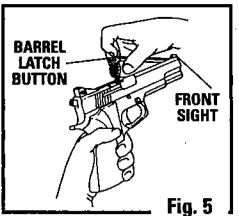

Fig. 5
- Press barrel latch button toward the front sight until the barrel pops open (Fig. 5). **DO NOT PULL THE BARREL UPWARD BEYOND THIS POINT. This could damage your soft air pistol.** The soft air pistol will not fire when the barrel is in the open position.
- Replace the plastic BB clip on the barrel (ratchet teeth facing the front sight) (Fig. 5).
- Replace the empty clip (ratchet teeth facing the front sight) on the barrel (See Fig. 5).